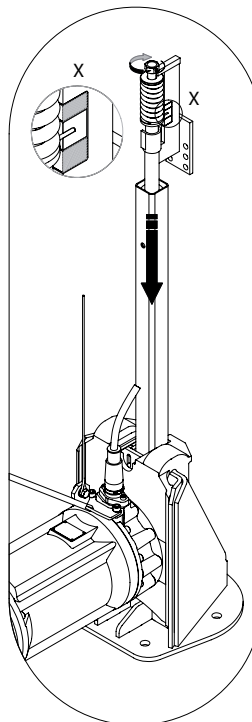

Figure 10 Engagement of the coupling system
- Lower the flow booster and allow it to engage. Turn the screw on the tube holder in **clockwise direction** (guide tube is lowered) until the guide tube wedge at the lower end of the guide tube engages with the bracket of the flow booster. Tighten the screw until the indicator pin is inside the green marking of the spring tension indicator (see Figure 10).